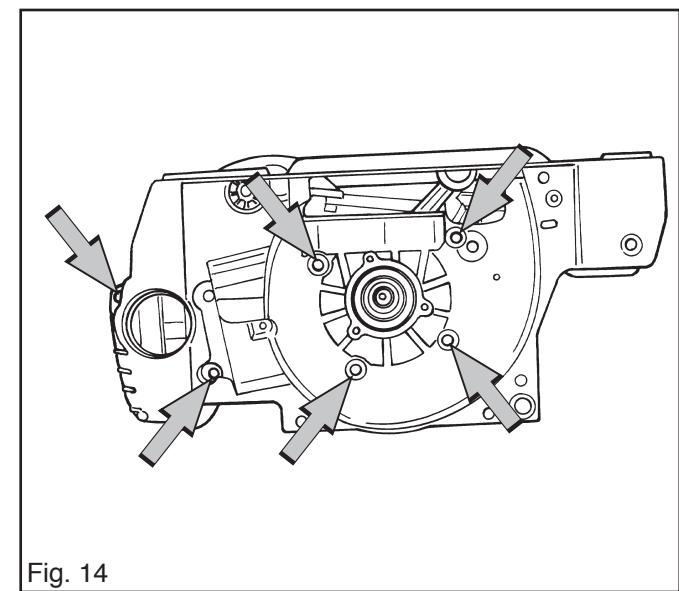

Fig. 14
- Insert the six bolts and tighten them in rotation. Tighten them finally to 8 Nm. See fig 14.